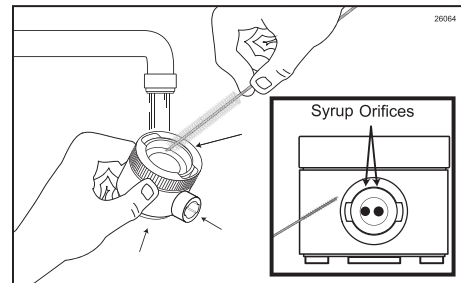

Figure 94
3. Brush and clean all exposed surfaces of the Injector Head with detergent water. Use a small brush to ensure that the syrup orifices are clear of any residual syrup. (See Figure 94.)